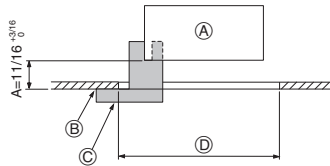
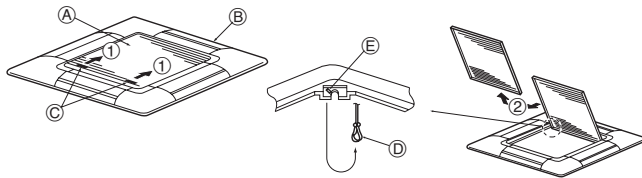
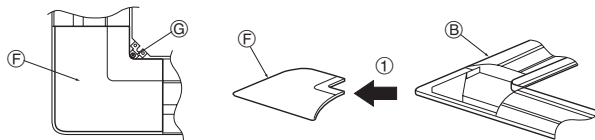

Fig. 9-2
Fig. 9-3
Fig. 9-4
①	Grille	1	950 × 950 (mm), 37 - 3/8 × 37 - 3/8 inch
②	Screw with captive washer	4	M5 × 0.8 × 25
③	Gauge	1	(Divided into four parts)
④	Fastener	2
⑤	Screw	4	4 × 8
⑥	Wired remote controller	1	for PLP-42AAMD
9.2. Preparing to attach the grille (Fig. 9-2)
- With the gauge ③ supplied with this kit, adjust and check the positioning of the unit relative to the ceiling. If the unit is not properly positioned relative to the ceiling, it may allow air leaks or cause condensation to collect.
- Ⓒ Gauge ③ (inserted into the unit)
9.2.1. Removing the intake grille (Fig. 9-3)
- Slide the levers in the direction indicated by the arrow ① to open the intake grille.
- With the intake grille in the "open" position, remove the hinge of the intake grille from the grille as indicated by the arrow ②.
9.2.2. Removing the corner panel (Fig. 9-4)
- Remove the screw from the corner of the corner panel. Slide the corner panel as indicated by the arrow ① to remove the corner panel.